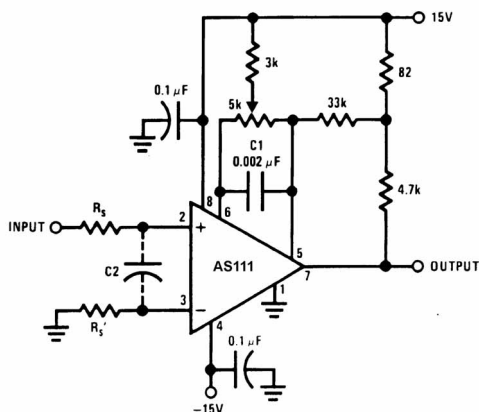

FIGURE 1. Improved Positive Feedback
However, when the input signal is a voltage ramp or a slow sine wave, or if the signal source impedance is high (1 k $\Omega$  to 100 k $\Omega$ ), the comparator may burst into oscillation near the crossing-point. This is due to the high gain and wide bandwidth of comparators like the AS111. To avoid oscillation or instability in such a usage, several precautions are recommended, as shown in Figure 1 below.
should be shorted together. If they are connected to a trim-pot, a  $0.01\ \mu\text{F}$  capacitor C1 between pins 5 and 6 will minimize the susceptibility to AC coupling. A smaller capacitor is used if pin 5 is used for positive feedback as in Figure 1.
7. When both inputs of the AS111 are connected to active signals, or if a high-impedance signal is driving the positive input of the AS111 so that positive feedback would be disruptive, the circuit of Figure 1 is ideal. The positive feedback is to pin 5 (one of the offset adjustment pins). It is sufficient to cause 1 to 2 mV hysteresis and sharp transitions with input triangle waves from a few Hz to hundreds of kHz. The positive-feedback signal across the  $82\Omega$  resistor swings  $240\text{ mV}$  below the positive supply. This signal is centered around the nominal voltage at pin 5, so this feedback does not add to the  $V_{OS}$  of the comparator. As much as  $8\text{ mV}$  of  $V_{OS}$  can be trimmed out, using the  $5\text{ k}\Omega$  pot and  $3\text{ k}\Omega$  resistor as shown.